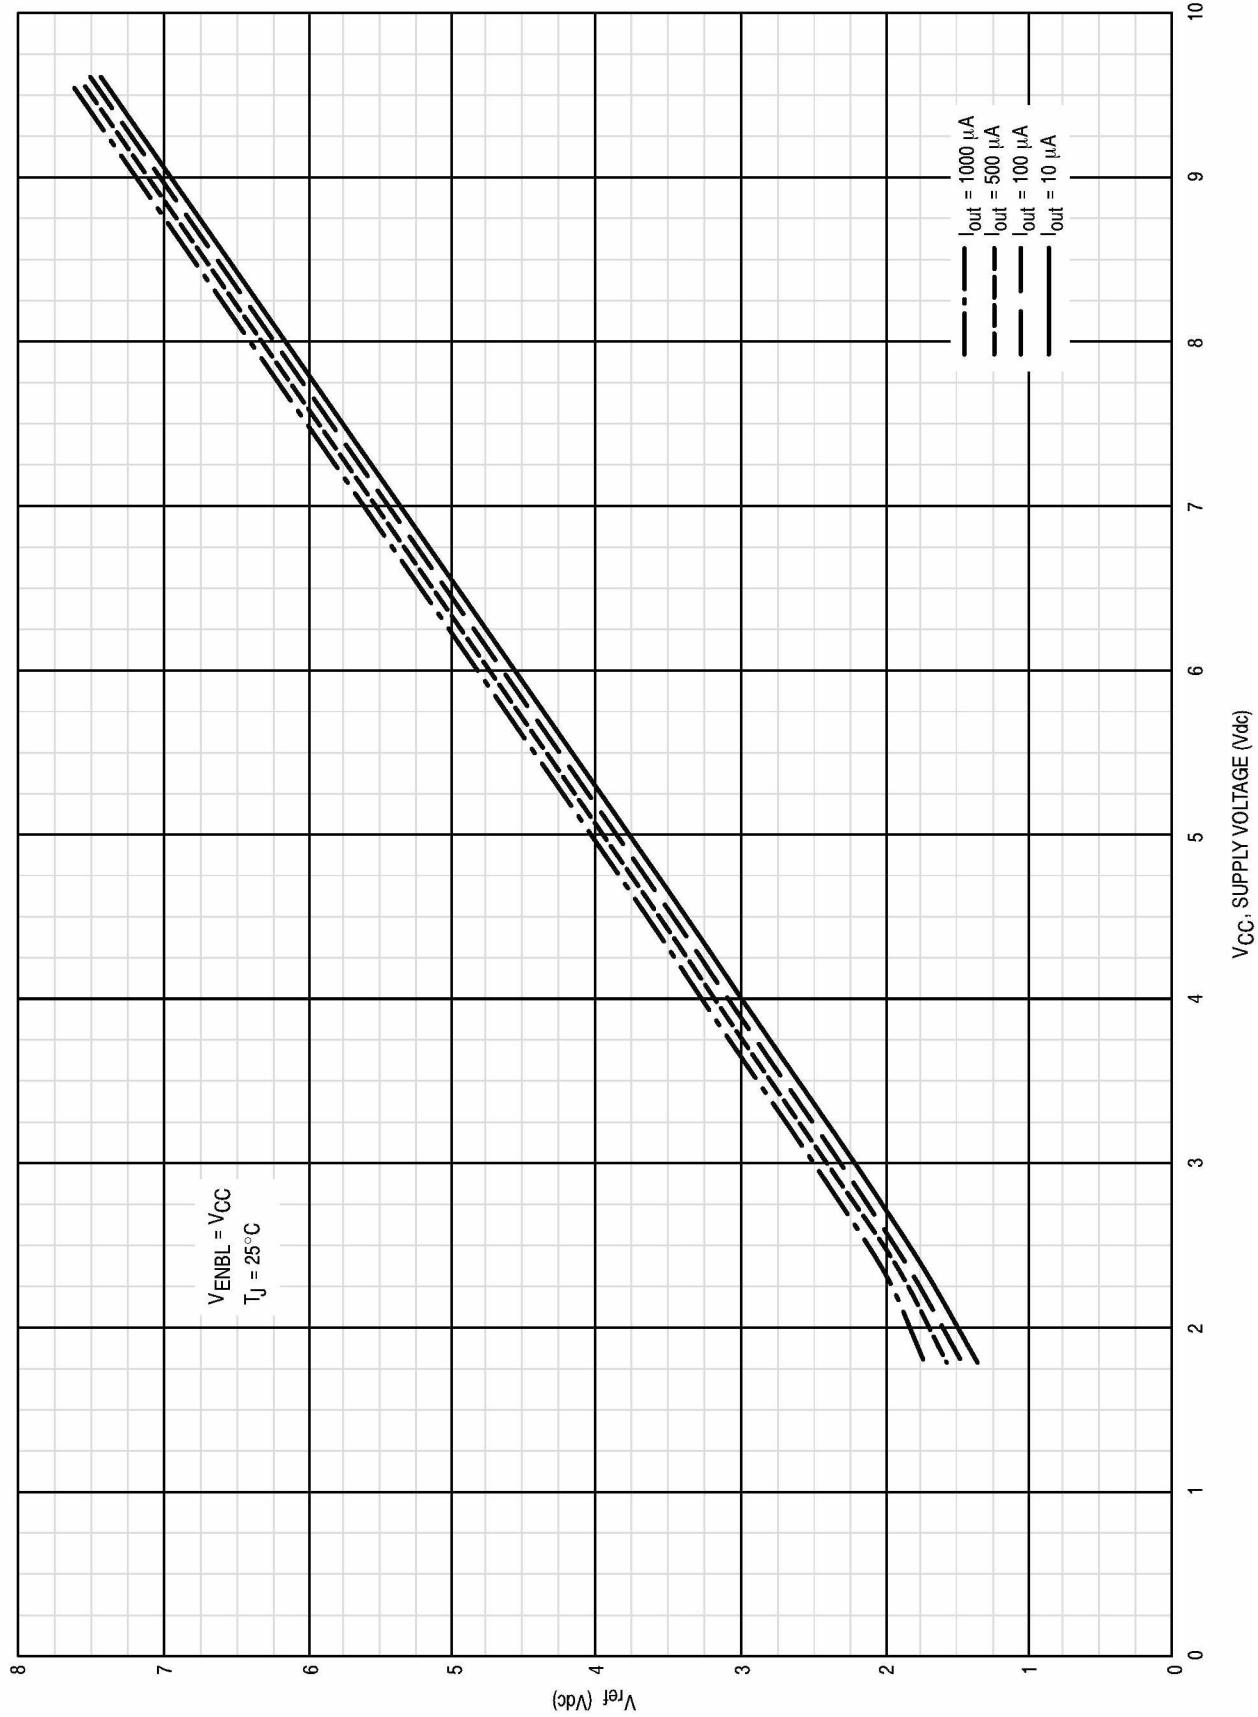

Figure 1. V_{ref} versus V_{cc} @ I_{out}
- Step 4: From Figure 1, read V_{ref} for V_{CC} and I_{out} calculated.
- Step 6: From Figure 1, read V_{ref} for V_{CC} & I_{out} chosen